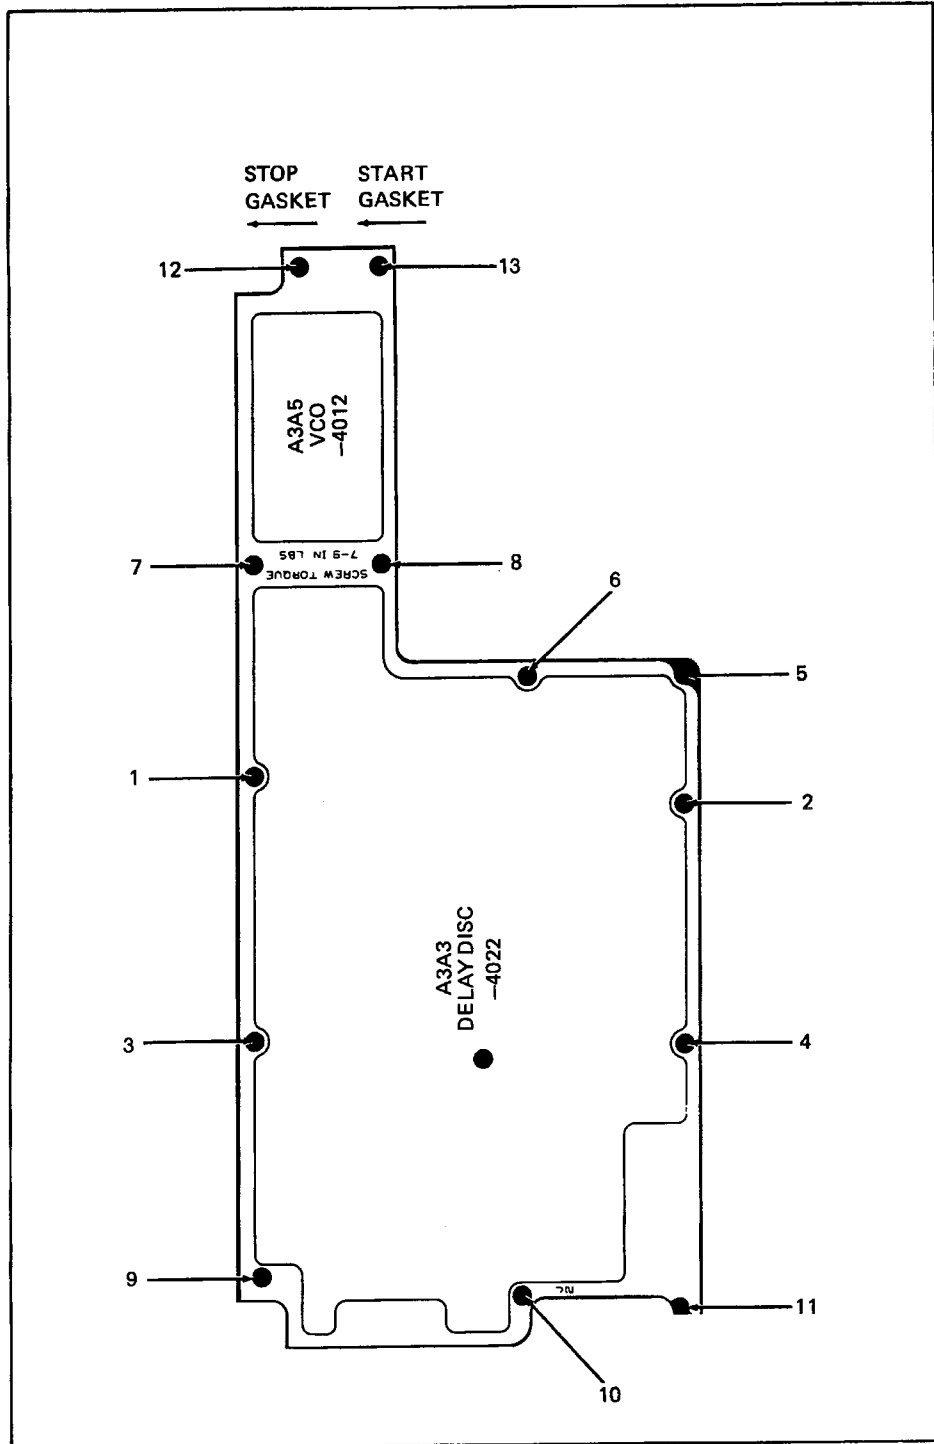

Figure 3-1. A3A3 Delay Discriminator/A3A5 VCO Cover
3-12. The A3A3 Delay Discriminator PCB Access Procedure allows access to the test points and adjustments described in Section 6. After the module cover has been removed, the cover screws must be torqued back in place to insure specified RF integrity. Figure 3-1 illustrates the sequence in which the screws must be torqued.
1. Make sure that the RF gasket is in place. The gasket should start and end halfway between screws number 1 and number 8 (Figure 3-1). Inspect the RF gaskets for damage (areas that are folded over, worn, or pinched).
- a. Start the RF gasket at screw number 13 (Figure 3-1).
- c. The end of the gasket should continue past the beginning of the gasket (at screw 13) to screw 12 (Figure 3-1).
- a. Torque all the screws to 3 inch-pounds in the numerical sequence shown in Figure 3-1.
- b. Torque all the screws to 7 to 9 inch-pounds in the numerical sequence shown in Figure 3-1. The torque value should be the same for all screws.